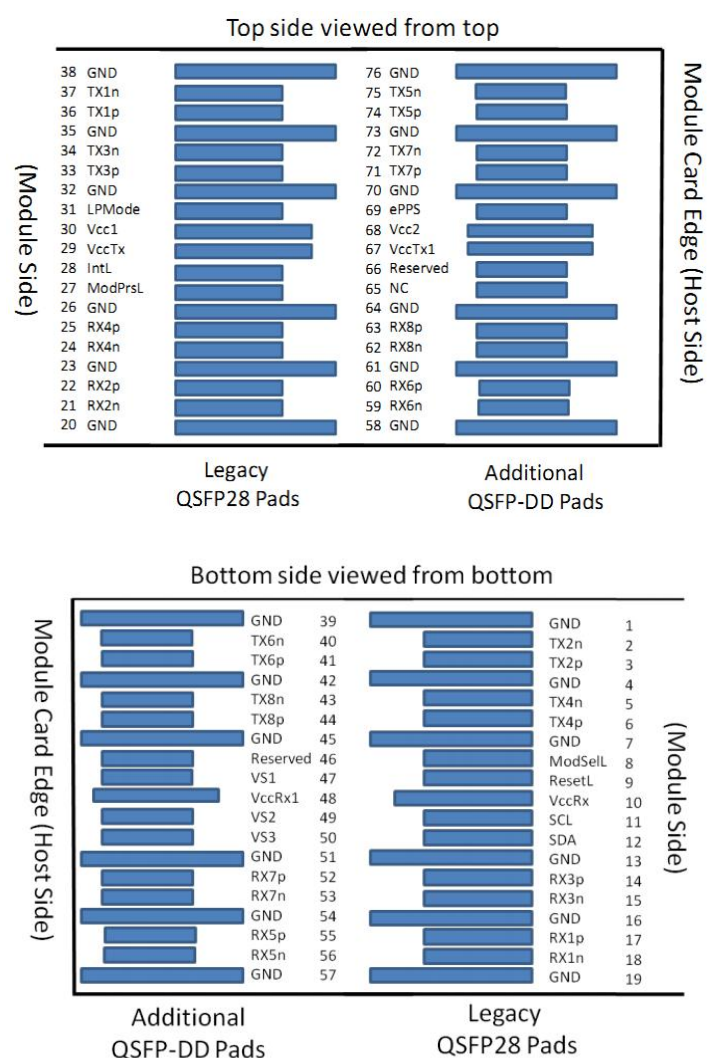

Figure 2. Pin View for QSFP-DD
1. GND is the symbol for signal and supply (power) common for the QSFP28 module. All are common within the module and all module voltages are referenced to this potential unless otherwise noted. Connect these directly to the host board signal common ground plane. 2. VccRx, Vcc1 and VccTx are the receiving and transmission power suppliers and shall be applied concurrently. Recommended host board power supply filtering is shown in Figure 2 below. Vcc Rx, Vcc1 and Vcc Tx may be internally connected within the module in any combination. The connector pins are each rated for a maximum current of 1000mA.